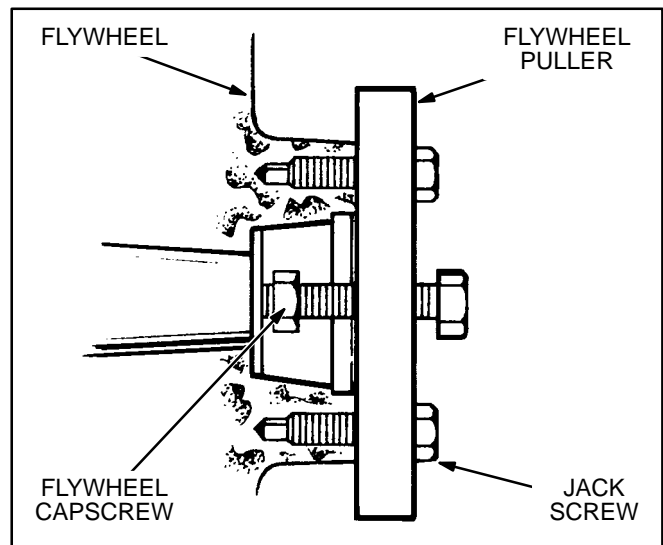

FIGURE 8. FLYWHEEL REMOVAL
6. Loosen the flywheel capscrew and back it out several turns. See Figure 8.